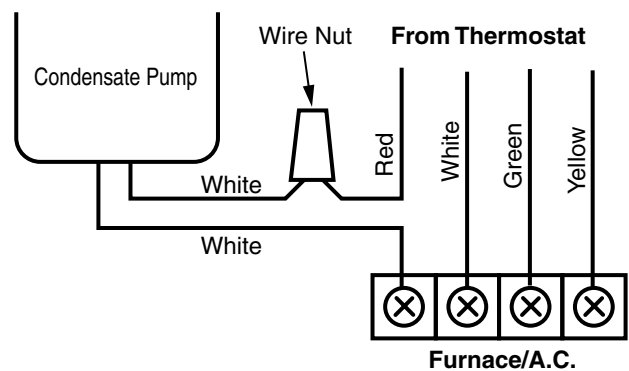

Figure 1: Low Voltage Auxiliary Safety Switch connection for Furnace/AC shutdown installation.
- C. Connect the red wire to one of the white wires from the safety switch as shown in Figure 1.